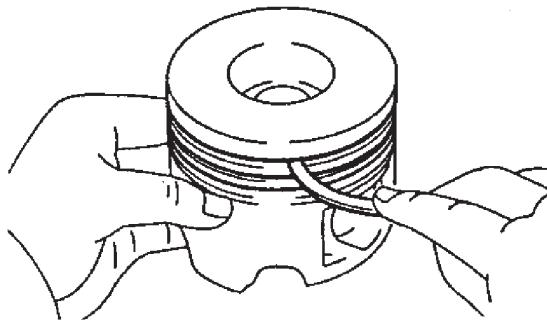

Figure 5-112
2. Clean the piston ring grooves using the groove cleaning tool or a damaged ring (Figure 5-112).